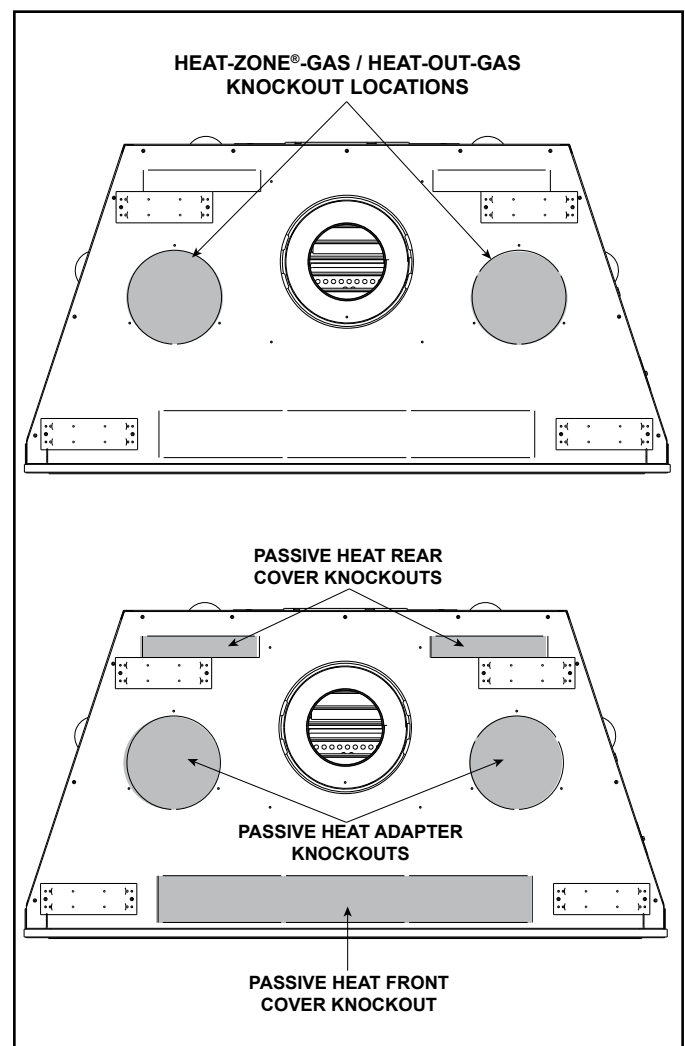

Figure 6.4 Heat Management Knockout Locations
- Locate the two heat management knockouts on the top of the appliance. Remove the knockout from the fireplace and discard it. See Figure 6.4. Either one or two heat management systems may be installed. Remove the knockout(s) from the appliance with a tin snips.
Passive Heat may be used with HEAT-OUT-GAS or one HEAT-ZONE®-GAS. The dedicated knockouts, as shown in Figure 6.4, must be used only as indicated.